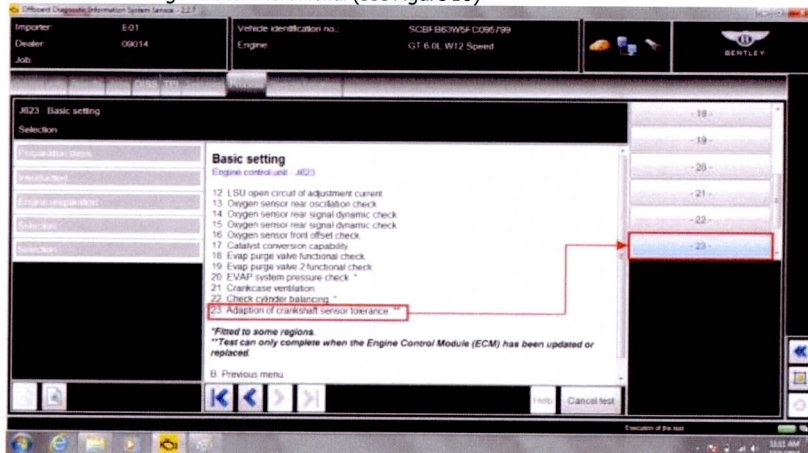

Figure 17
6. Within Basic settings select 23 Adaption of crankshaft sensor tolerance (see Figure 17)